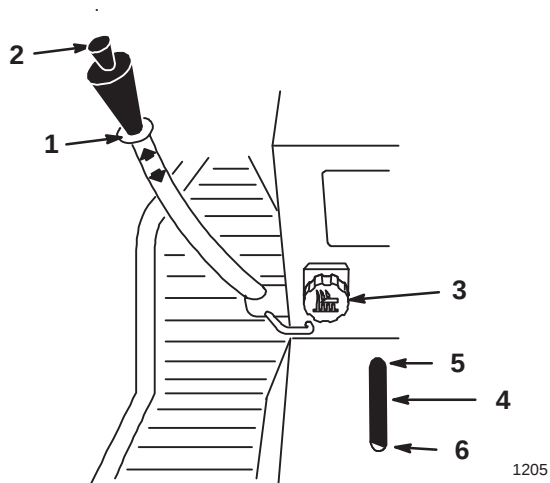

Figure 11
The attachment lift lever (Fig. 11) is used to raise and lower various attachments.
The Dial-A-Height control (Fig. 11) is used to limit the downward travel of the attachment. The Dial-A-Height knob (Fig. 11) is rotated to change the location of this stop, up or down.
1. Raise the attachment lift lever: Refer to Raising Attachments. In the raised position the Dial-A-Height knob (Fig. 11) can be rotated to change the stop location. Turn clockwise to raise and counterclockwise to lower the height of the attachment.
2. The Dial-A-Height indicator (Fig. 11) will show the change, high to low, in attachment lift height as adjustment is made.